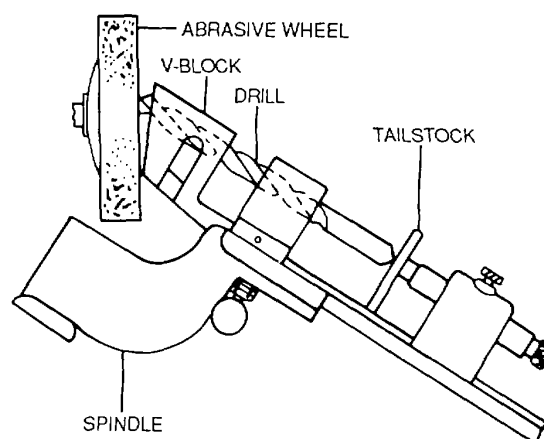

Figure 4-85. Machine Grinding a Drill Bit
(1) *Machine grinding.* The most accurate way to grind a drill is to use a machine designed for this purpose, shown in figure 4-85. This type of grinding is accomplished as follows:
(b) Place the drill bit on the V-blocks of the holder, shown in figure 4-85, and turn so that the drill cutting edge will contact the grinding wheel.